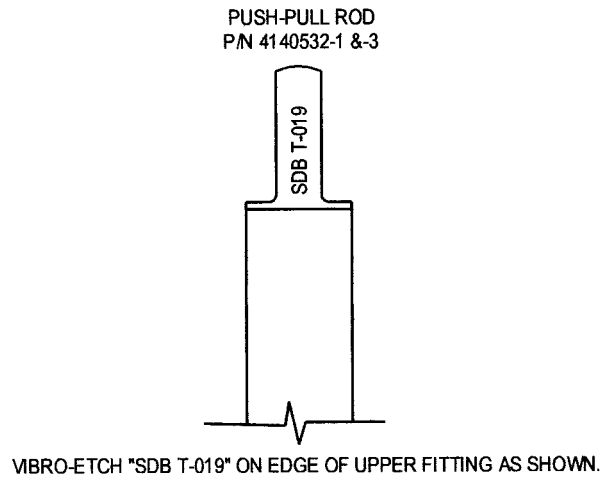

Figure 4. Push-Pull Rod Marking
- 6.12 Vibro-etch "SDB T-019" on the upper rod fitting as shown in Figure 4. Do not etch the top of the fitting: